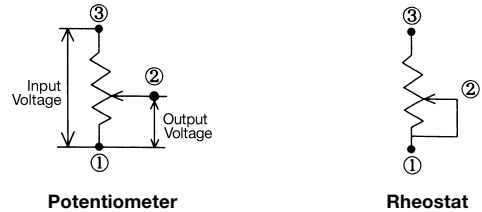

Figure 3
4. Trimmer Applications. Normally, as shown in Figure 3, a trimmer may be used in a circuit as a potentiometer (three-terminal voltage divider) or as a rheostat (two-terminal variable resistor where all the current passes through the wiper). Wiper current, therefore, is especially important in rheostat applications. The potentiometer circuit is preferred because of more stable performance; however, if the trimmer is used as a rheostat, the resistance constriction and temperature coefficient should be checked carefully. Since the rated power is a partial load, it is increased or decreased in proportion to the position of the